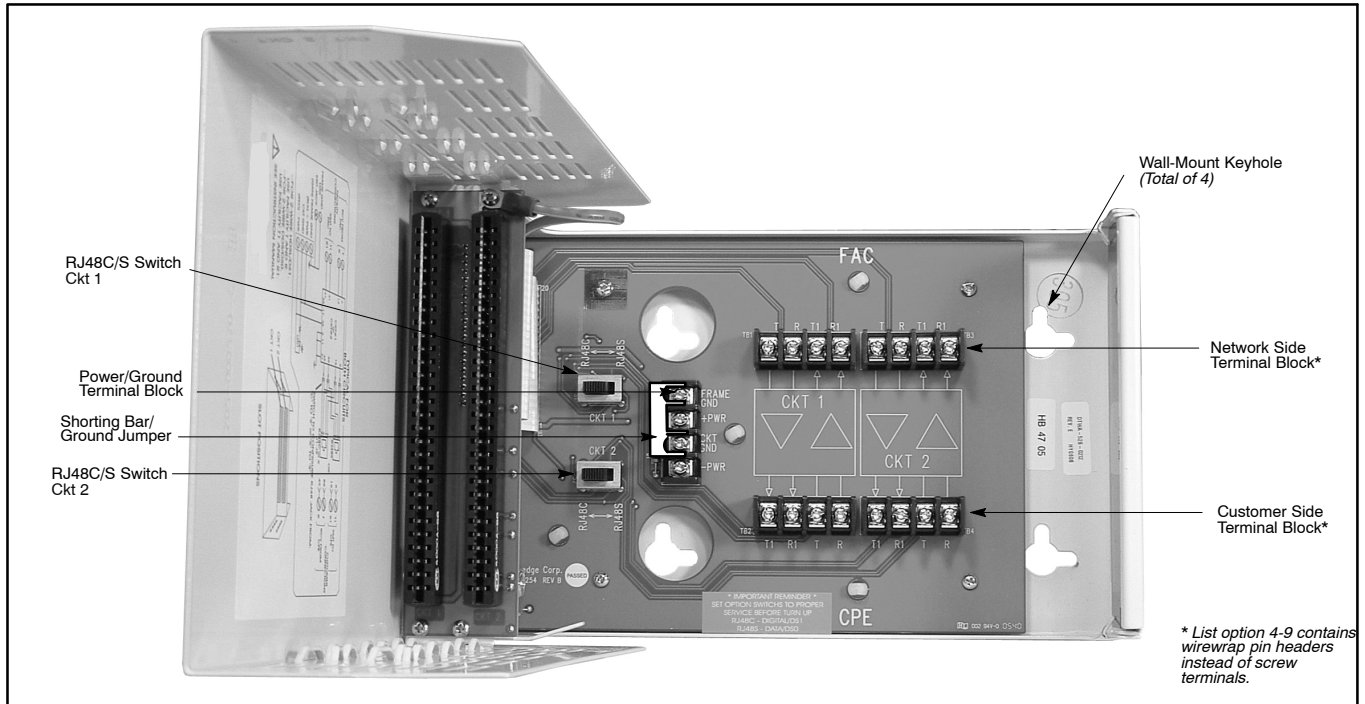
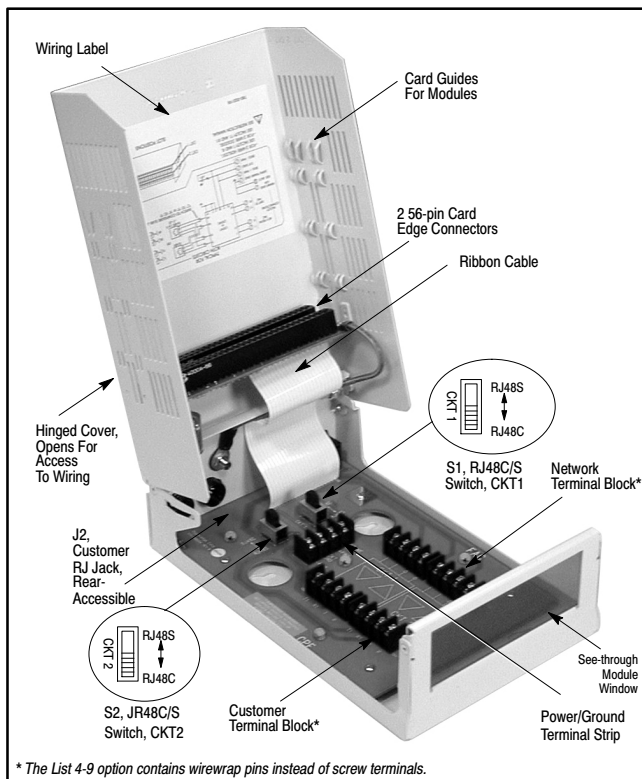
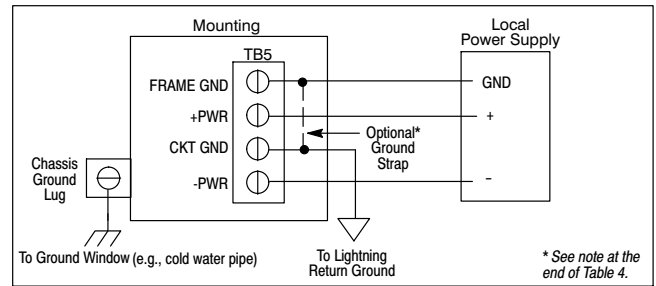

Figure 3. Top View of 528-0212 Interior (Cover Open for Visual Clarity), Typical Wall-Mounted Position
Figure 4. 528-0212 Interior, Cover Open, Typical Table-top Mount Position
Figure 8. Grounding with Local Power
The 528-0212 contains various features, switches, and terminal blocks, as shown in Figure 3 and Figure 4 and described below, to option the unit for proper operation.
- **Interior TB5 Frame Ground Screw Terminal (Inside Assembly).** A frame ground screw terminal, labeled TB5, located inside the assembly can be used as an optional method for earth grounding the metal housing (Figure 3 and Figure 8) when local power is supplied.
2. Using the mounting screw keyholes in the assembly's base plate as a template, carefully lift the assembly to the desired mounting position on the wall and mark the four mounting screw keyhole locations for the assembly (see Figure 3). The keyholes allow the assembly to be mounted so the Customer Interface connections may face either left, right, or down. Set aside the assembly.